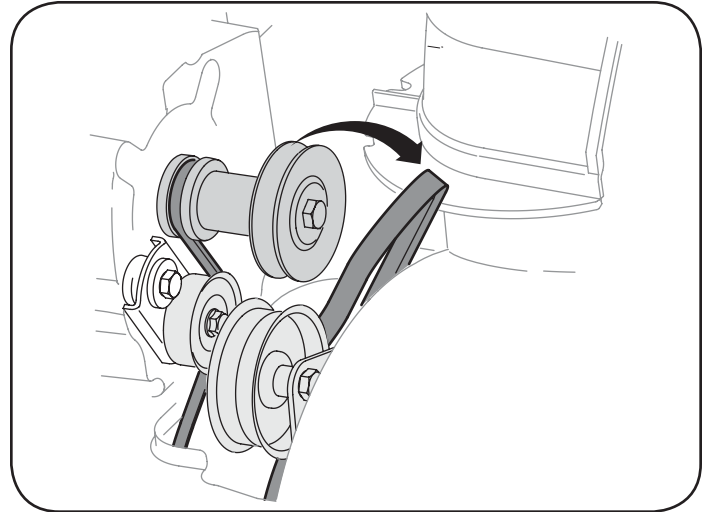

Figure 32
3. Roll the auger belt off the engine pulley. See Figure 32.